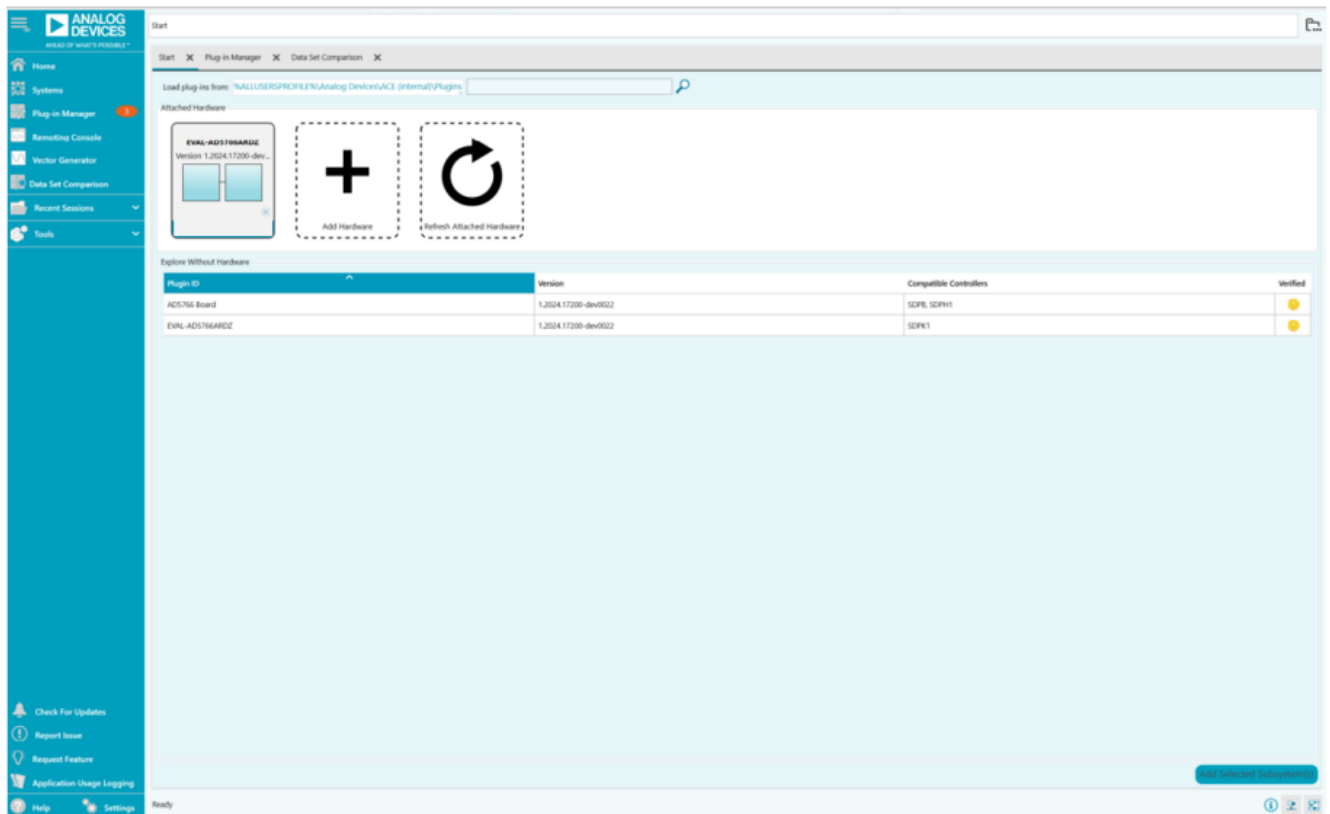
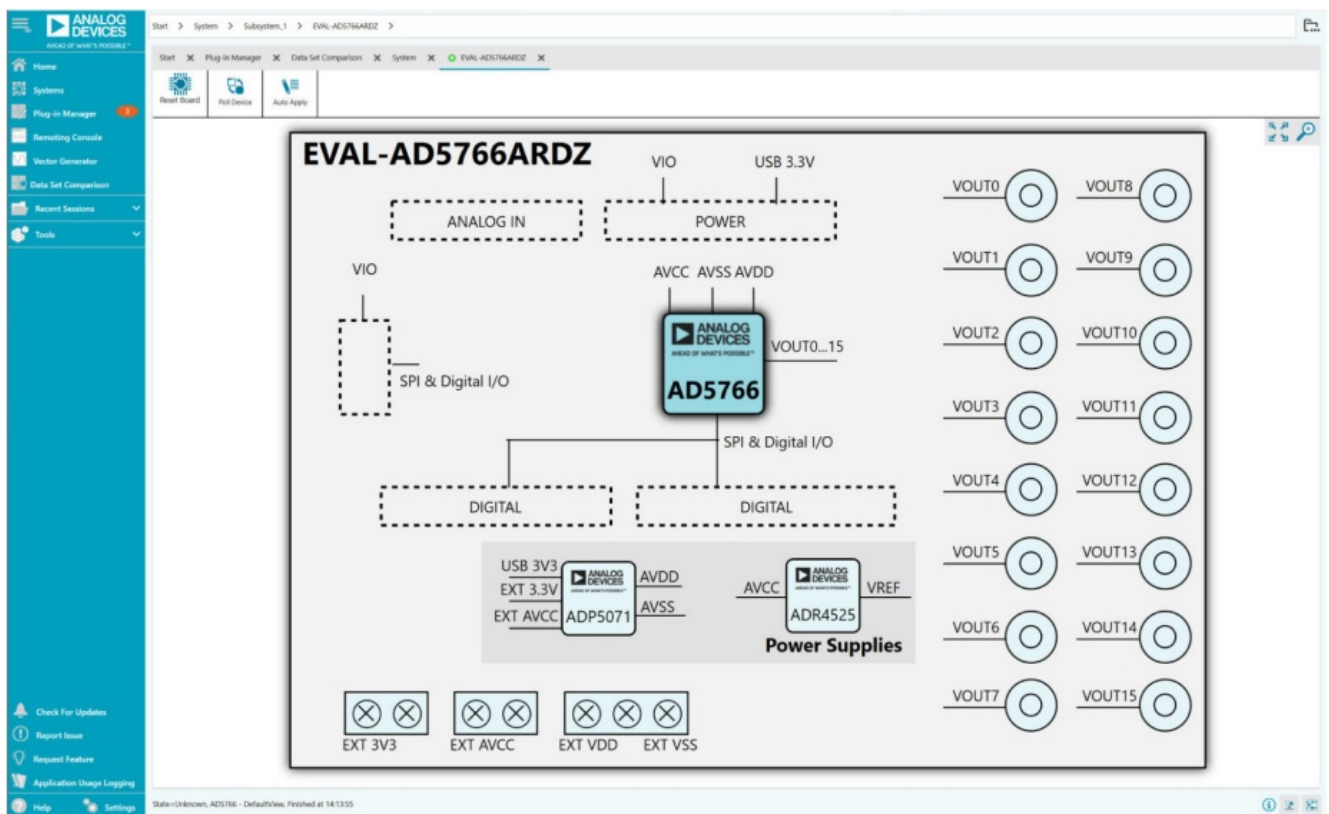

Figure 4. Start Tab for the EVAL-AD5766ARDZ ACE Software
Figure 5. AD5766 Board Tab for the EVAL-AD5766ARDZ ACE Software
1. To launch the ACE Software, click Start > All Programs > Analog Devices > ACE. The ACE Software then opens in the Start tab and recognizes the EVAL-AD5766ARDZ. Note that the interface is the same for the EVAL-AD5767ARDZ, except for the board name (see Figure 4).
2. Double-click the EVAL-AD5766ARDZ icon under the Attached Hardware section to open the EVAL-AD5766ARDZ tab (see Figure 4 and Figure 5).